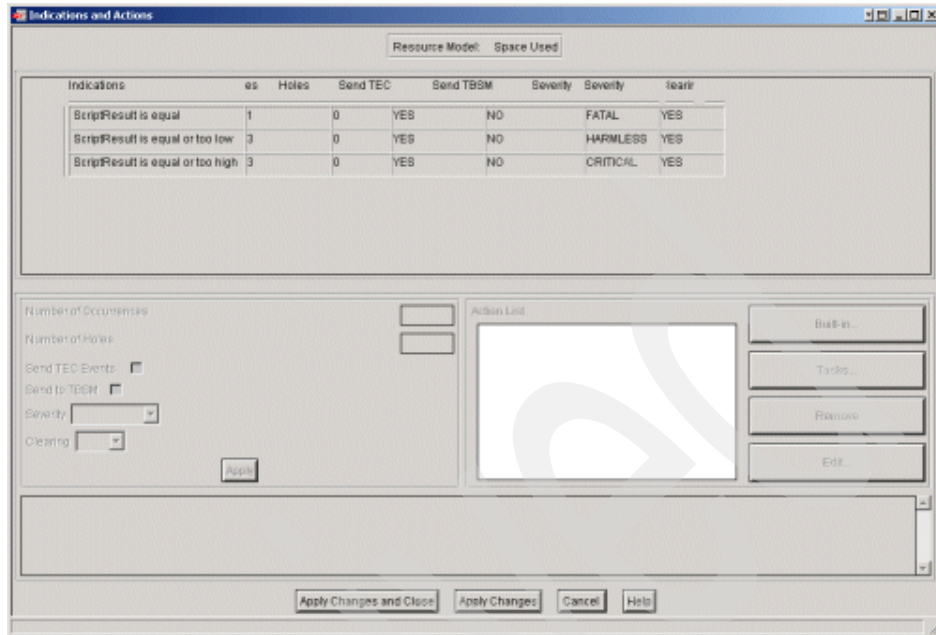

Figure 9-133 Indications and Actions window.
3. Access the indications by selecting **Indications** to open the Indications and Actions window as shown in Figure 9-133 on page 531.